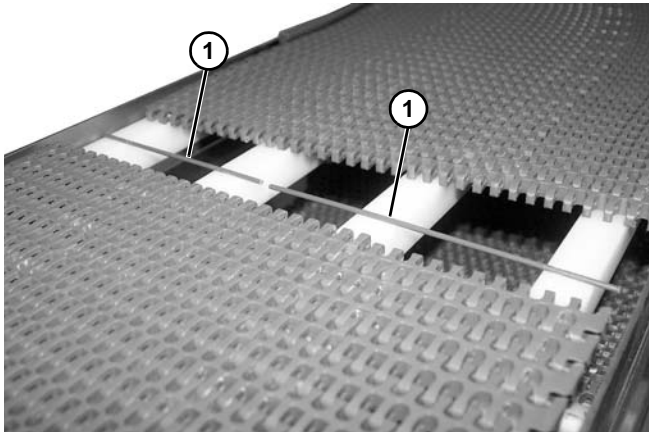

Figure 39
1. Remove both belt rods (Figure 39, item 1). Refer to "Conveyor Belt Replacement" on page 14.